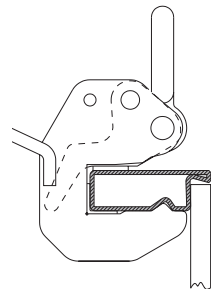

Fig. 34.4
3. Release the safety lever and press it back to its start position so that the crane hook is locked completely (Fig. 34.4).